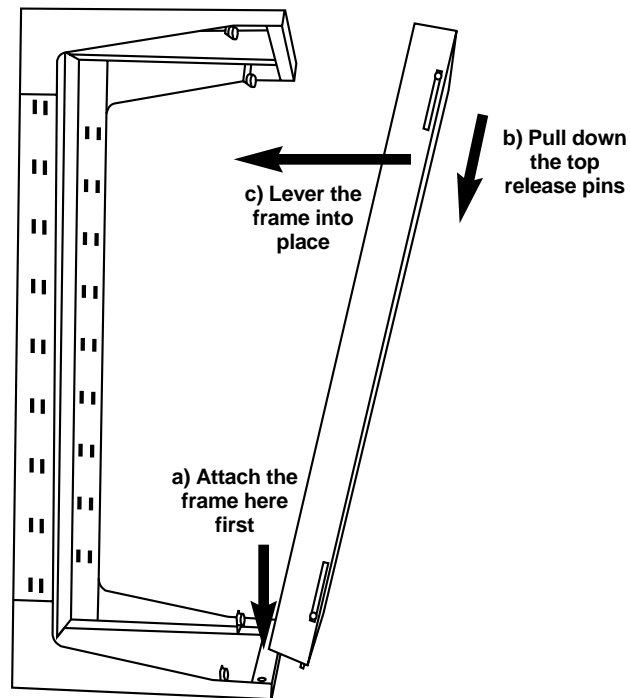

Figure 3-3. Attaching the swing frame.
3. Attach the swing frame by inserting its bottom release pins into the corresponding pin guides (see **Figure 3-3** below). While pulling down on the top release pins, slide the swing frame into position. Make sure the top pins are also properly inserted in their corresponding pin guides.